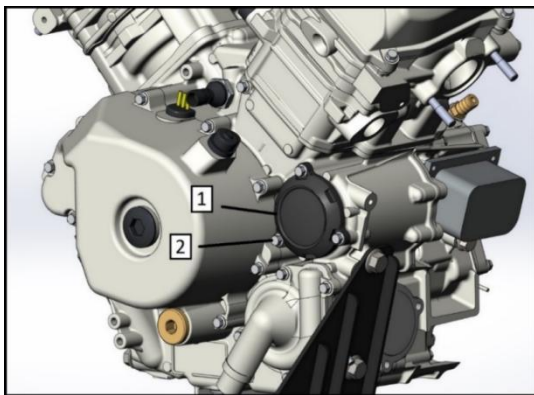

Fig. 6
3. Lay absorbent fabric or non-woven material (posture 1, figure 6) under the cover to absorb the oil flowing out.
4. The end is 8mm, unscrew the screw (position 2, figure 6), and remove the cover.